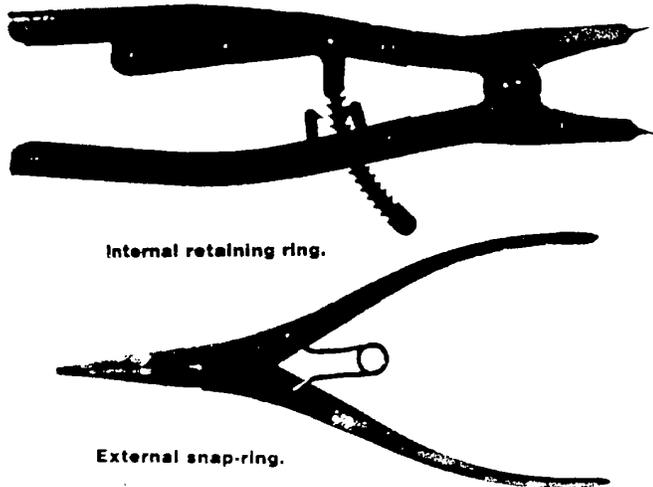

Figure 4-40. Pliers, Retaining Ring
(3) *Pliers, Retaining Ring.* The retaining ring pliers (snap ring) are used to remove internal and external retaining rings. It is shown in figure 4-40.